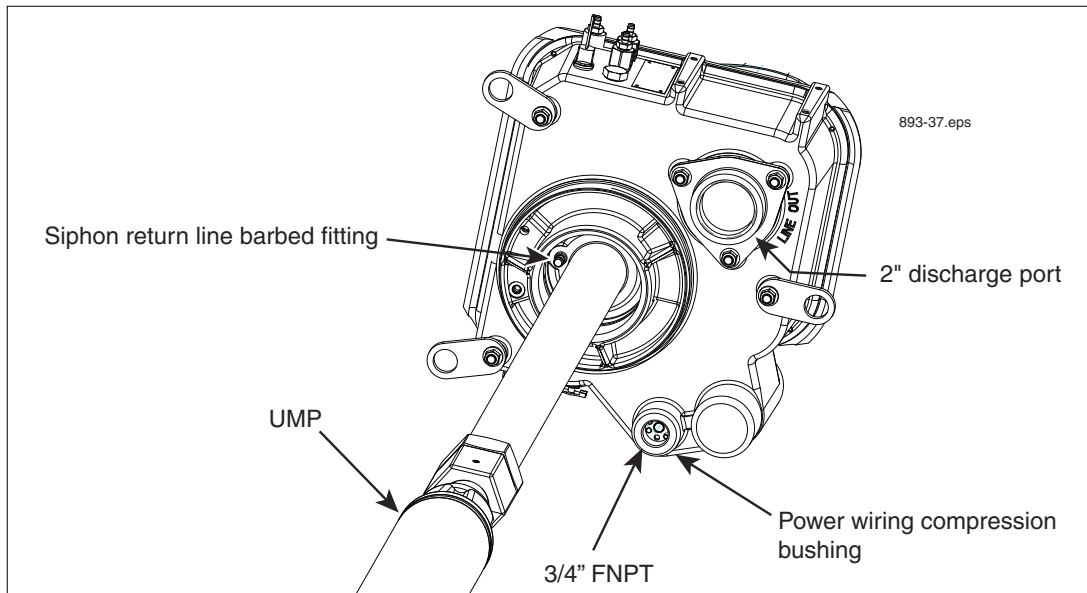

Figure 10. Locating Return Line Fitting On Packer
10. Attach the siphon return line tubing to barbed fitting in the base of the packer and secure with a clamp (see Figure 10).